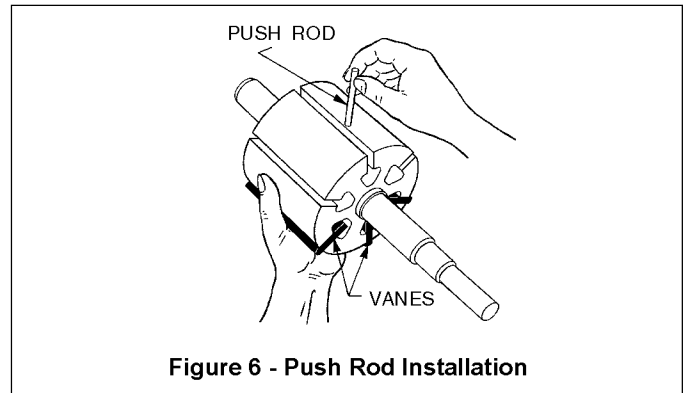

Figure 6 - Push Rod Installation
- b. Hold the vanes in place while inserting the three (3) push rods (77) from the top as shown in Figure 6.